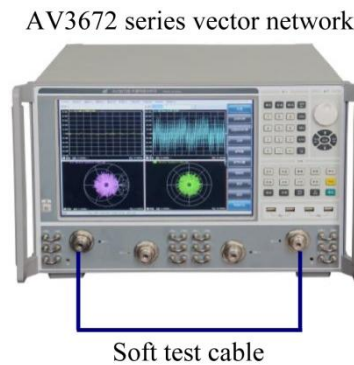

Fig. 11.5 Output Power Linearity of Test Port
- 1) As shown in Fig. 11.5, connect the system and preheat is for 60min at least.